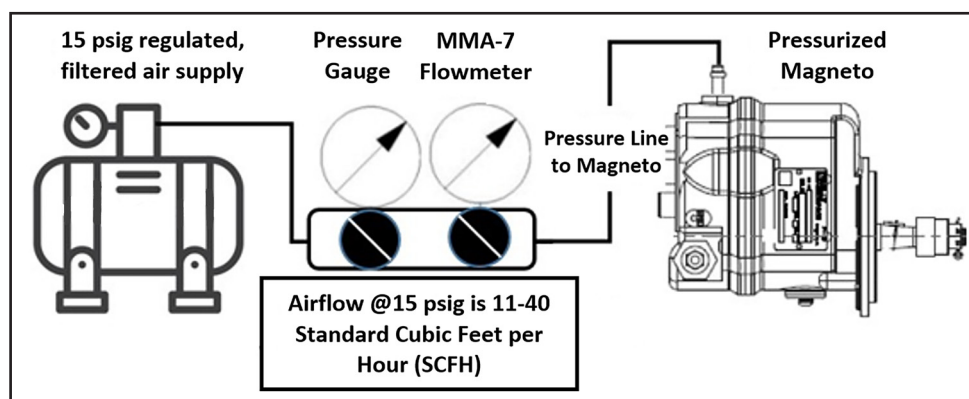

Figure 5.2 – General Configuration of Equipment Set up
- (1) Air supply to deliver regulated 15 psig.
- (2) Air supply must be filtered to prevent moisture contamination.
- (3) Position pressure gauge immediately in-line with airflow gauge to eliminate any discrepancy of line loss from pressure supply to airflow gauge.
- (4) Dwyer MMA-7 Flowmeter capable of measuring a range of 5 to 60 Standard Cubic Feet per Hour (SCFH).
- (5) Install a sealed pressurized harness cap with sealing O-ring and three harness cap screws. Apply torque to screws IAW Table 6.2 in CHAPTER 6 – MAINTENANCE. Attach filtered air hose to the inlet port of the magneto.
D. Apply 15 psig to magneto pressure line. Airflow range is 11-40 SCFH. If airflow exceeds these limits, reposition harness cap, gaskets and torque the housing and harness cap screws IAW Table 6.2 in CHAPTER 6 – MAINTENANCE. Reference Figure 5.2 for the general configuration of equipment set up.